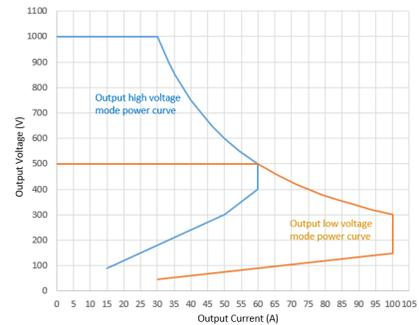

Fig.4 Output Power Curve for High Voltage Mode and Low Voltage Mode
- Output High voltage mode (HV 150V_{DC} – 1000V_{DC}), Low voltage mode (LV 150V_{DC} – 500V_{DC}) operation (Fig.4)